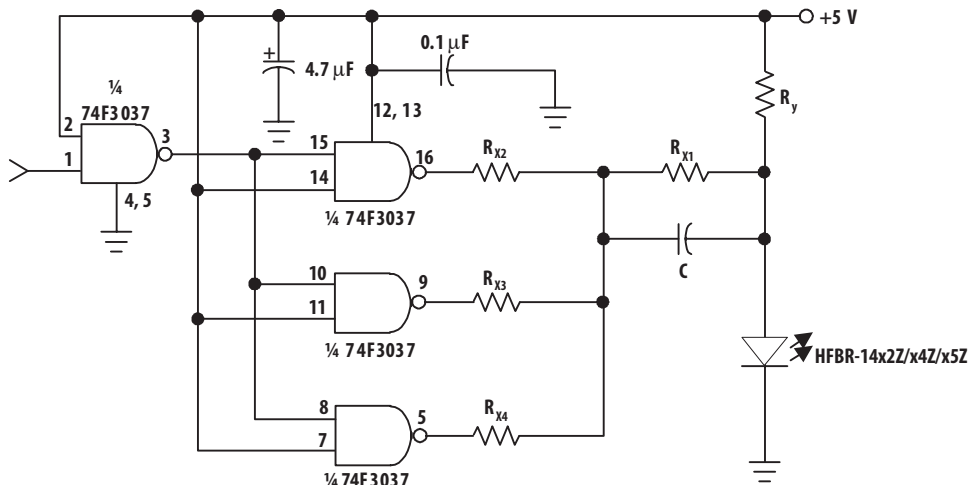

Figure 11. Recommended Drive Circuit
- Pre-bias is recommended if signal rate $> 10\text{ MBd}$, see recommended drive circuit in Figure 11.
The circuit used to supply current to the LED transmitter can significantly influence the optical switching characteristics of the LED. The optical rise/fall times and propagation delays can be improved by using the appropriate circuit techniques. The LED drive circuit shown in Figure 11 uses frequency compensation to reduce the typical rise/fall times of the LED and a small pre-bias voltage to minimize propagation delay differences that cause pulse-